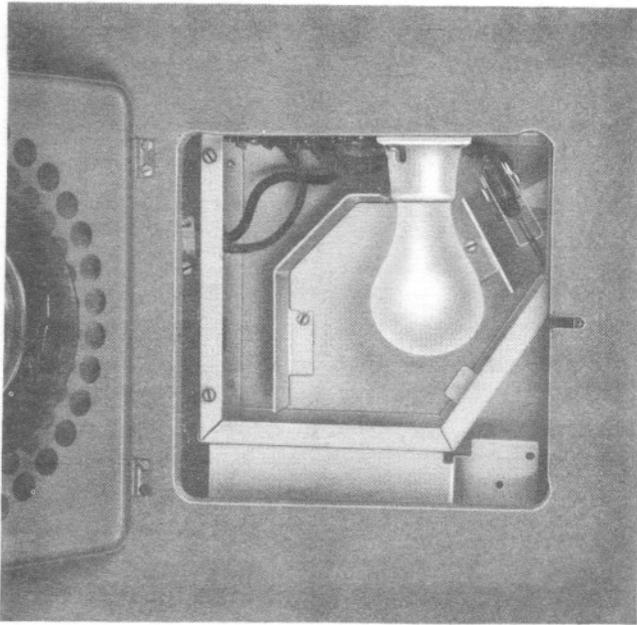

Fig. 9 - 4A Light Fixture
8.07 The 4A light fixture is intended for use in the 9-, 10-, and 11-type booths and also serves as a junction point for supplying power to a blower, directory light, telephone sign, and adjacent booths (see Fig. 9).